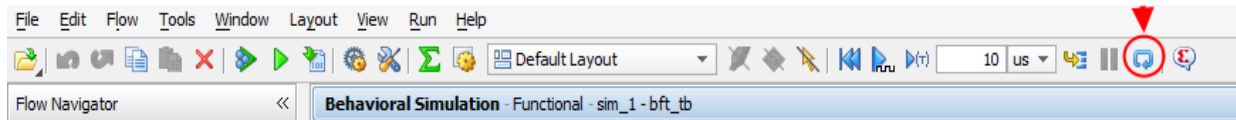

Figure 4-17: relaunch sim option
2. Use the Relaunch  button on the Vivado IDE toolbar to re-compile and re-launch the simulation as shown in Figure 4-17. You may alternatively use the `relaunch_sim` Tcl command to re-compile and re-launch the simulation.